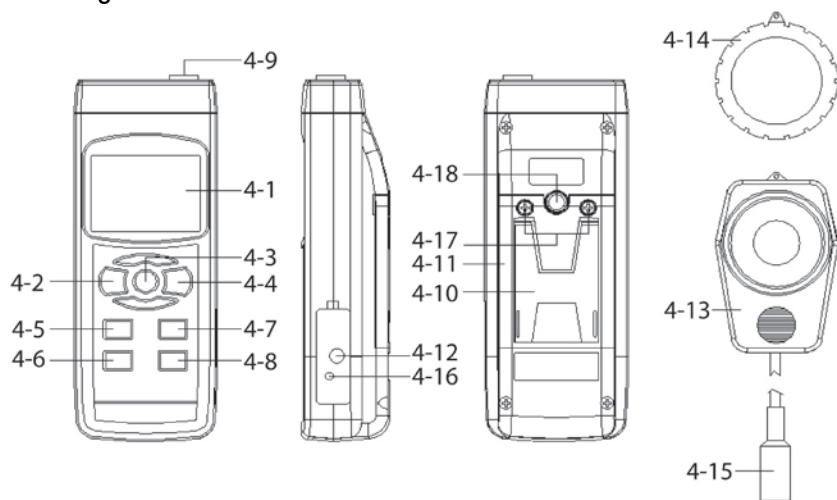

Fig. 1
1. Push the "Power Button" (4-2, Fig. 1) to power on the instrument. The meter will perform a short self-test before measurements can be taken.
2. Select the desired unit of measurement by pressing the "Lux/Fc Button" (4-5, Fig. 1). The display will indicate the selected unit of "Lux" or "Ft-cd".
3. Determine the lighting type (Tungsten, Fluorescent, Sodium or Mercury lamp) by pressing the "Light Source Select Button" (4-8, Fig. 1). For unknown light types we recommend you use Tungsten
4. Select the max range by using the "Range Button" (4-6, Fig. 1)
5. Position the "Light Sensor" (4-13, Fig. 1) directly under the light source.
- a. Cover the "Light Sensor" (4-13, Fig. 1) using the "Sensor Cover" (4-14, Fig. 1). Do not remove the "Sensor Cover".
- c. Pushing the "Zero Button" (4-7, Fig. 1) will zero out the LCD display.
- a. During measurements, press the "Hold Button" (4-3, Fig. 1). The data on the LCD display will be held and the "HOLD" symbol will be displayed.
- a. During a measurement press and hold the "Hold Button" (4-3, Fig. 1) for at least 3 seconds. The meter will now only display and hold the largest measured value along with the "Peak HOLD" indicator.
- b. To clear the peak value momentarily press the "Hold Button" (4-3, Fig. 1).
- c. To turn off the Peak Hold function, press and hold the "Hold Button" (4-3, Fig. 1) for at least 3 seconds.
- a. The data record function records the maximum and minimum readings. Press the "REC Button" (4-4, Fig. 1) to start the data record function.
- b. With the "REC" symbol on the display momentarily pressing the "REC Button" (4-4, Fig. 1) will toggle between Max and Min recording.
- c. To exit the memory record function, press and hold the "REC Button" (4-4, Fig. 1) for at least 3 seconds.
- d. Note: To delete the displayed value while recording, just press the "Hold Button" (4-3, Fig. 1) until the display clears the data leaving the "REC" symbol.
To disable this function, select the memory record function during a measurement by pressing the " REC. Button" (4-4, Fig. 1).
This instrument has RS232 PC serial interface via a 3.5 mm terminal (4-12, Fig. 1).
2. Open the "Battery Compartment" (4-11, Fig. 1) by first loosening the "Battery Cover Screws" (4-17, Fig. 1).
3. Replace the batteries with "good" batteries noting the correct polarity. Replace "Battery Compartment" (4-11, Fig. 1) and "Battery Cover Screws" (4-17, Fig. 1). Ensure the cover is securely fastened.